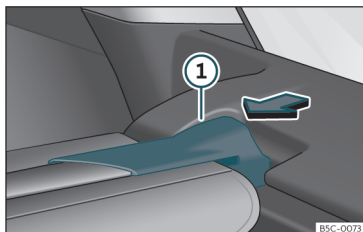

Fig. 110 In the luggage compartment: removing the shelf.
- Press the rear shelf support»» **Fig. 110** ① in the direction of the arrow.
- Engage the support of the rear shelf»» **Fig. 110** ① into the housing on the other side.